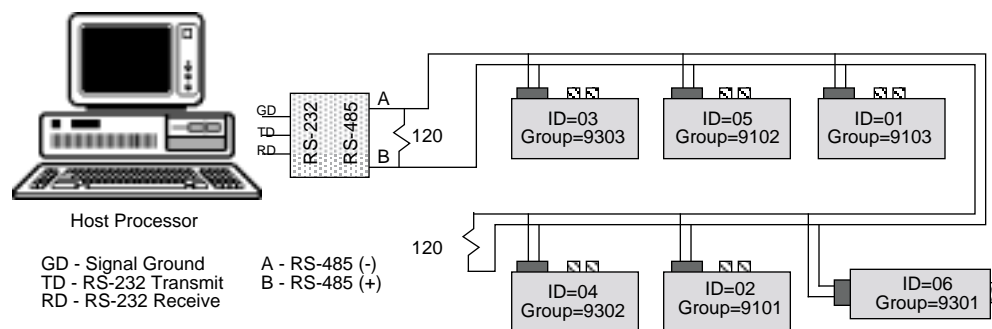

Figure 4.21—RS-485 PPT Multidrop Network
A PPT multidrop network connection of six units is shown in Figure 4.21. In this network, the device IDs are not in order from one end of the network to the other. Looking at all the units on the bus, the device IDs are sequential beginning with ID=01 and without duplication. This is an important setup condition if global commands (**\*99**) are desired.
**Assign Group Numbers:** Once the device IDs are set the group IDs can be assigned. Each unit in the same group must have a sequential sub-address - beginning with 01. The sub-address tells each unit what order it should respond in a group addressed command. To set the group (91) and sub-address (01) for device ID=02, send the following commands: **\*02WE**, **\*02ID=9101**, **\*02WE**, **\*02SP=ALL**. Now when a command is sent to group 91, device ID=02 will be the first one to reply. In Figure 4.21, there are two address groups, 91 and 93; each have 3 PPT units assigned.
When a RS-485 multidrop network has all device IDs properly assigned (Figure 4.21), then global addressed commands can seek replies from all units without conflict. The **TO=N** and **TO=P** commands instruct the units how to reply in this situation. When **TO=N** command is set, each PPT will respond in sequence beginning with ID=01, one right after another. It is important that during this response sequence the host processor, or user, not transmit on the bus until the last unit has finished its message. A carriage return (<cr>) sent during the response sequence will cause the next unit ID to send its response even though the previous unit ID is still transmitting.